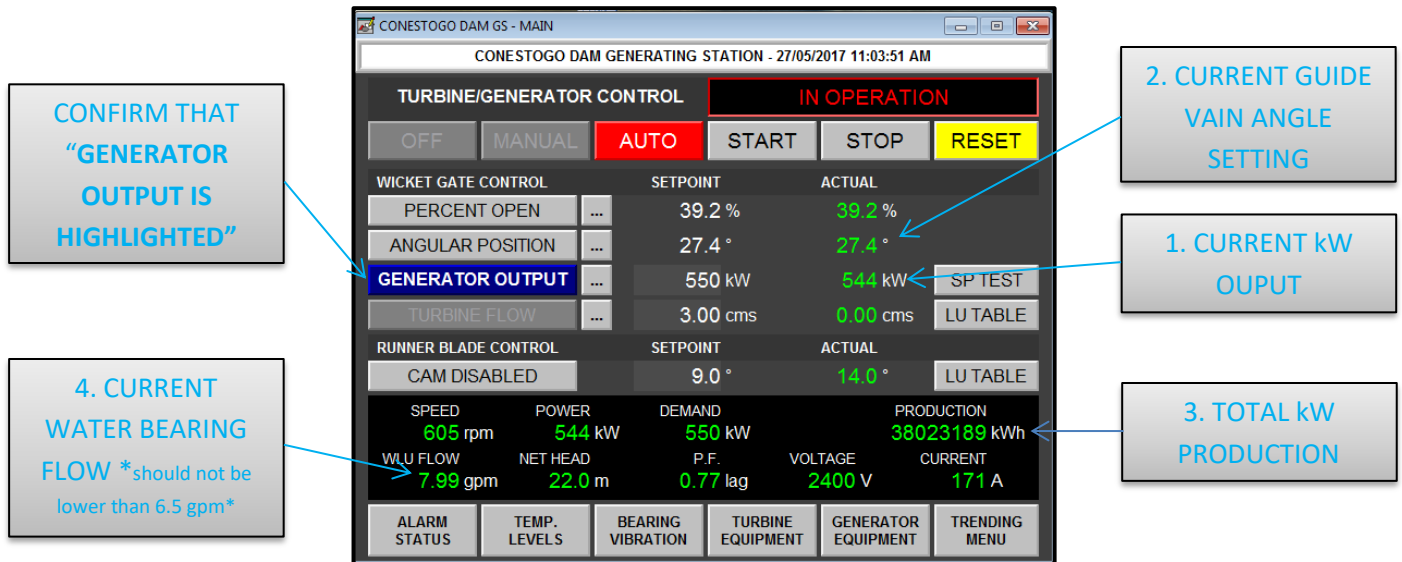

Fig 3
- After successfully logging on, the following screen will pop up. For the basic morning report, the things you need to know are labeled below. (Fig 3)
- The last thing to check in before exiting the turbine control panel, is the “Z” axis vibration. To view the “Z” axis value, select the “Bearing Vibration” button on the main interface. (Fig 3) The value is listed beside the “Z” Axis vibration label.